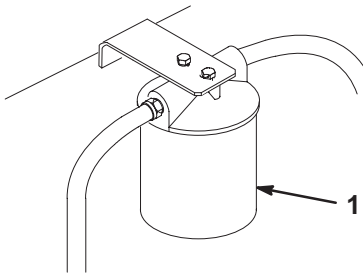

Figure 42
3. Place drain pan under filter, remove the old filter and wipe the filter adapter gasket surface clean (Fig. 42).